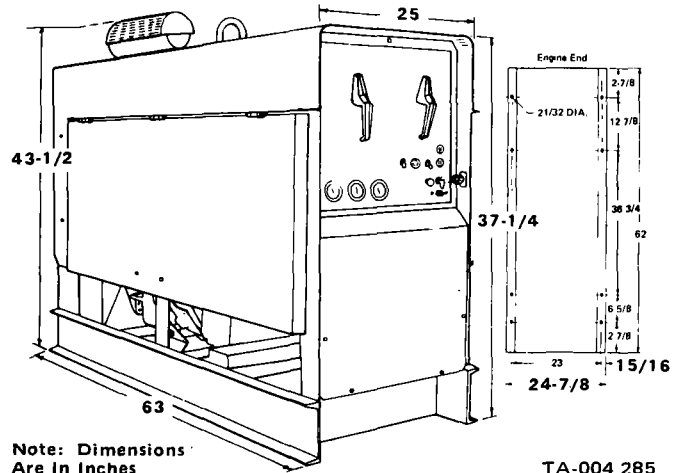

Figure 3-1. Dimensional Drawing
**3-1. LOCATION (Figure 3-1)**
Holes are provided in the base for mounting purposes. Figure 3-1 gives overall dimensions and the base mounting hole layout.